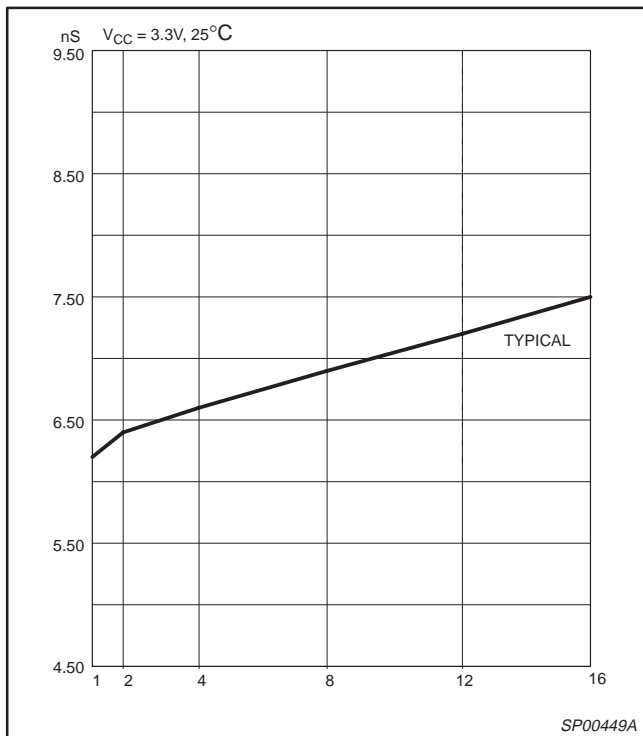

Figure 6.  $t_{PD\_PAL}$  vs. Outputs switching
- Specifications measured with one output switching. See Figure 6 and Table 3 for derating.
1. Specifications measured with one output switching. See Figure 6 and Table 3 for derating.